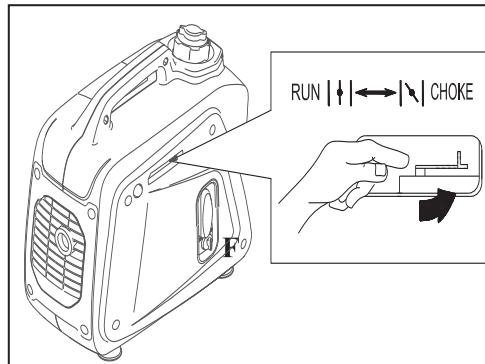

Fig. 7-3
- Turn the choke lever back to the “RUN” position. (See Fig. 7-3)